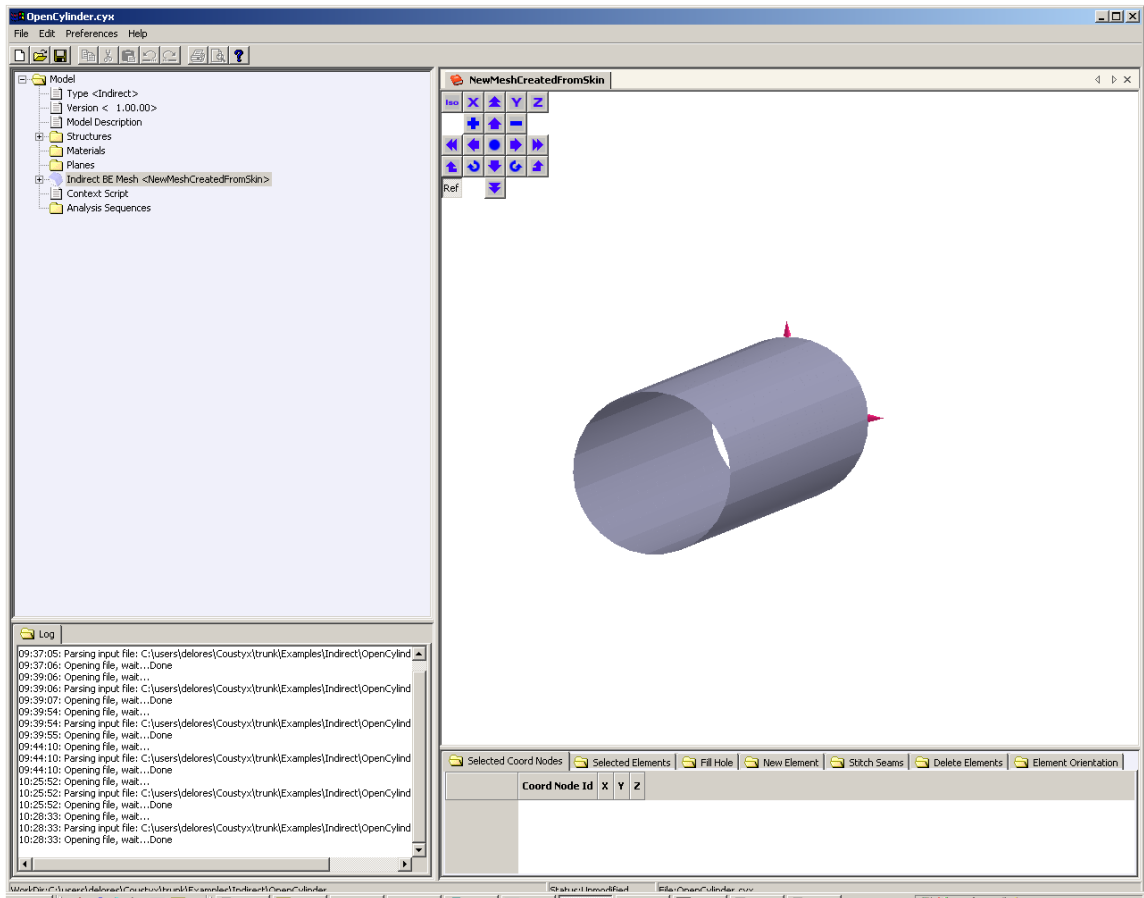
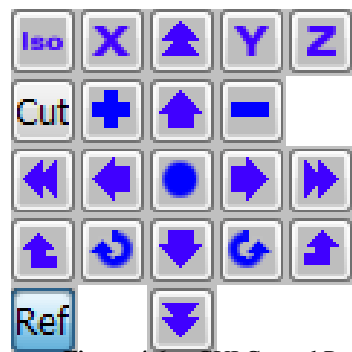

Figure 4.5 Coustyx Mesh Viewer Window.
Figure 4.6 GUI Control Panel Tools
We can view the Finite Element (FE) structure mesh or the Boundary Element (BE) mesh by opening them in a *Mesh Viewer* window. This section describes the user controls and the functions available to manipulate a mesh when it is open in the *Mesh Viewer* window. Note that the *Mesh Viewer* window appears only when a FE or a BE mesh is opened. **To open a mesh in the *Mesh Viewer* window, right-click on the desired mesh in the model tree and select Open.** Figure 4.5 shows *Coustyx* UI with the *Mesh Viewer* window opened for a BE mesh. The *Mesh Viewer* window is made of two panes: the top pane with the Graphical User Interface (GUI) displays a mesh and the bottom pane with the tabbed windows lists various mesh manipulation tasks.
The GUI control panel is located on the top-left corner of the *Mesh Viewer* window (Figure 4.5, Figure 4.6). It has tools to *zoom* and *rotate* the model. Brief descriptions of these GUI tools are in Table 4.2.
This tabbed window is part of the bottom pane of the *Mesh Viewer* window (Figure 4.5). *This window is read-only.* The window contains a table that shows the id and the coordinates of the selected nodes in the mesh viewer.
This tabbed window is part of the bottom pane of the *Mesh Viewer* window (Figure 4.5). *This window is read-only.* The window contains a table that shows properties of the selected elements in the mesh viewer. The details presented in the table vary with the type of mesh, FE or BE mesh, and also vary with the type of the model, *MultiDomain* or *Indirect* BE model.